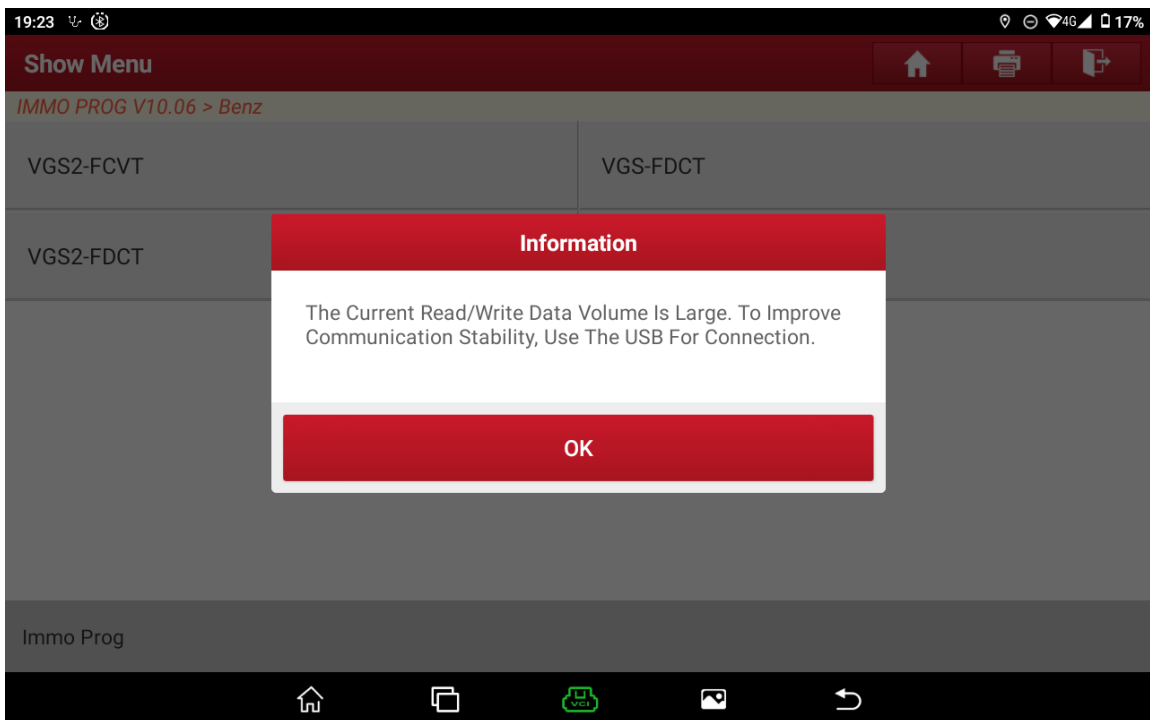

Figure 3
3. The current Read/Write data volume is large. To improve communication stability, please use the USB for connection, as shown in Figure 3;